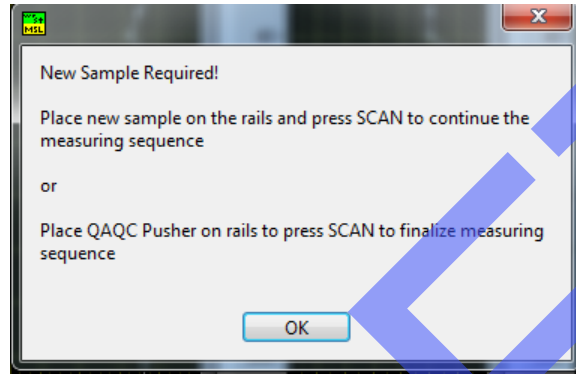

Figure 5. Prompt to load the next sample.
- Once the core section has cleared the first 1.5 m of track, the logger will automatically stop and retract the pusher bar. A prompts for loading the next section appears (Fig. 5). Place the next section on the track and Click **OK** to view the **Sample Entry** screen.